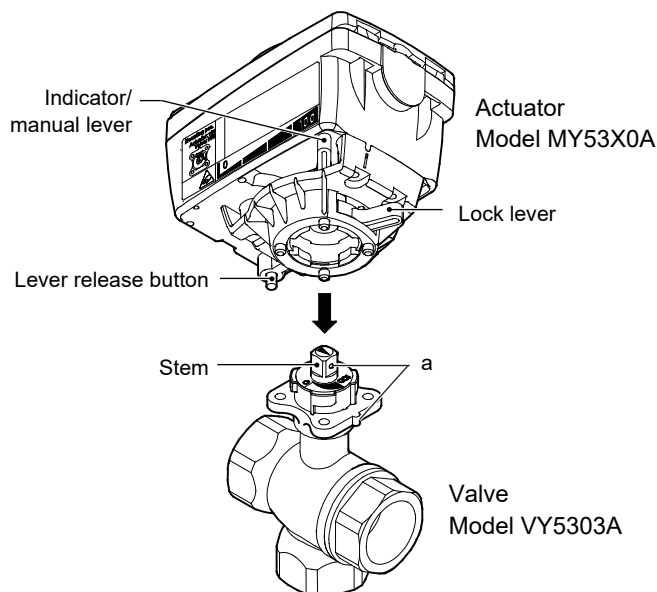

Figure 9. Mounting the actuator onto the valve
- 3) Confirm that the arrow on the top of the valve stem points at "100". A hole on the side of the stem faces the same direction at which the tip of the valve joint surface (with the actuator) points when the valve position is fully open. (See 'a' in Fig. 9.)